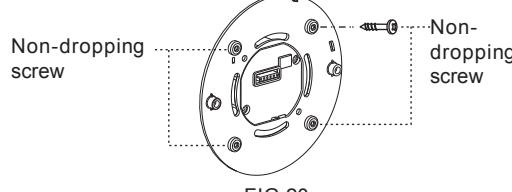

FIG.20
- The operation of C-Bus signal control (See FIG.4). Ensure slide switch is set accordingly, refer to section 4.2.1.2 and FIG.20 & FIG.21.
3.3.4.4 Insert the four non-dropping screws to the corresponding screw holes on sensor's fixing plate. Afterwards, those four screws will not drop off to provide convenient subsequent installations (See FIG.20).